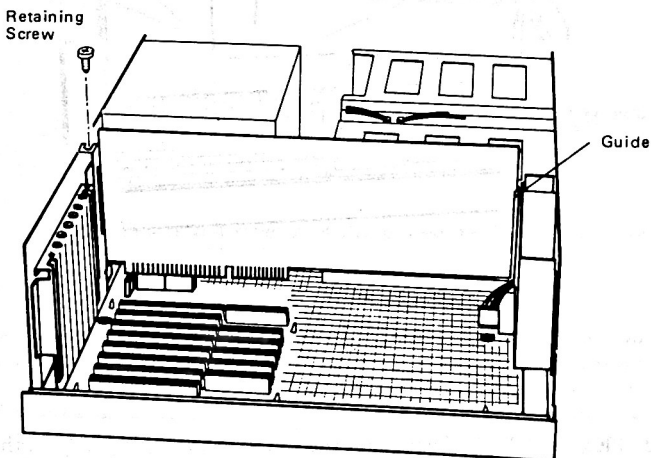

Figure 2-4
2. Remove the retaining screw and lift out the board in an upwards direction (Figure 2-4).